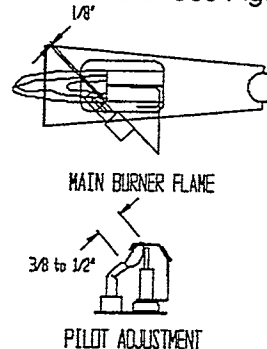

Figure 2
13. A visual check of the main burner and pilot flame should be made at the beginning of each heating season. See Figure 2 for proper flame.
6. The pilot and burner flames are in good adjustment (by comparison with the pictorial sketches of the main burner flame and the pilot burner flame, as shown in Figure 2).